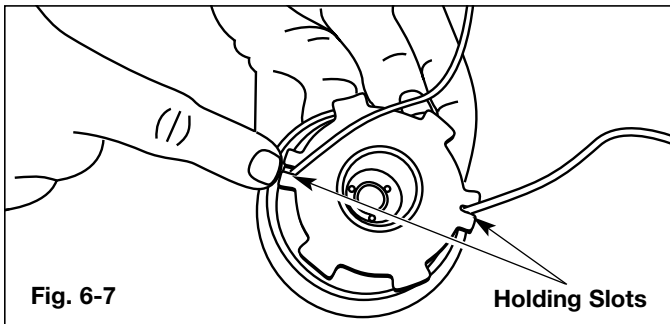

Fig. 6-7
12. Insert the ends of the line into the two holding slots (Fig. 6-7).